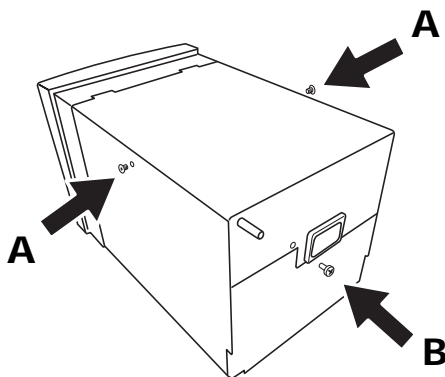

Figure 10.2a Undo cover fixings
2. Release the cover by undoing the two T8 Torx-headed screws ('A' in figure 10.2a) and the Cross-headed screw ('B' in the figure).